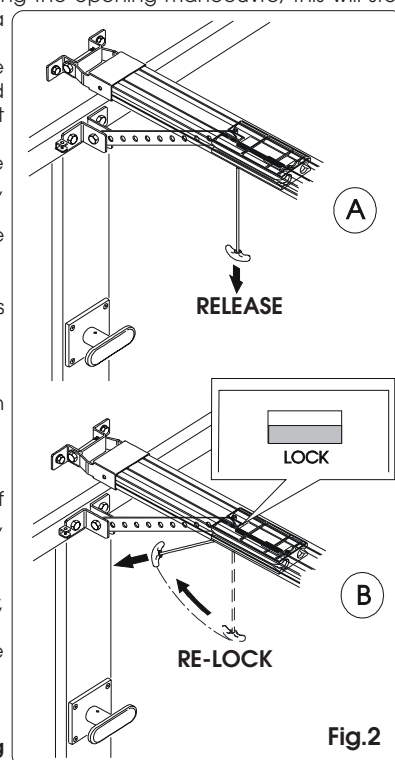

Fig.2
- Release the operator, by pulling the release handle downward (fig. 2 ref. A).
- Re-lock the automatic system by pulling the handle sideways (fig. 2 ref. B) and, on release, make sure the "LOCK" indication window under the carriage is red, confirming correct reset.